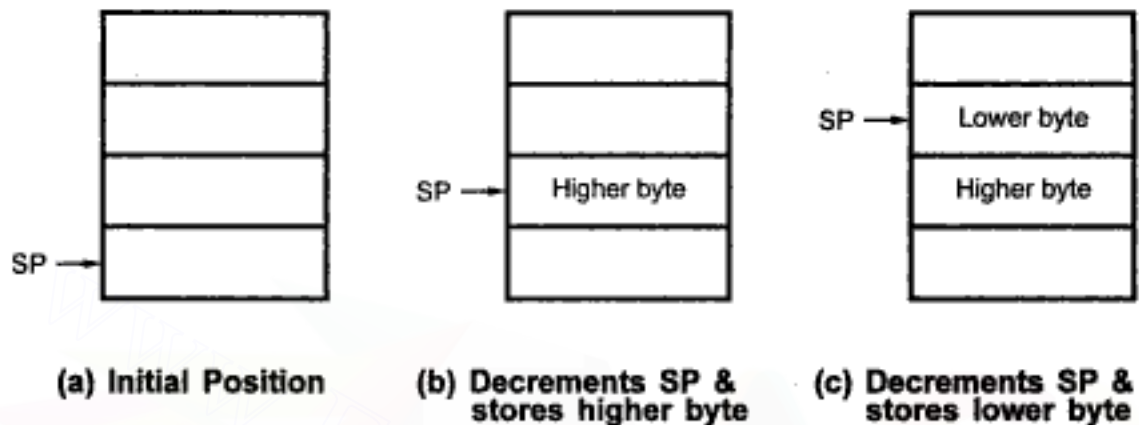

Fig. 5.2 Steps involved in PUSH Operation
**PUSH Operation :** In PUSH operation, 16-bit data is stored on the stack. This 16-bit data is stored in two operations. In the first operation, stack pointer is decremented by one and then the higher byte of the 16-bit data is stored at the memory location pointed by stack pointer. In the second operation, stack pointer is again decremented by one and then the lower byte of the 16-bit data is stored at the memory location pointed by stack pointer. The Fig. 5.2 shows steps involved in the PUSH operation.